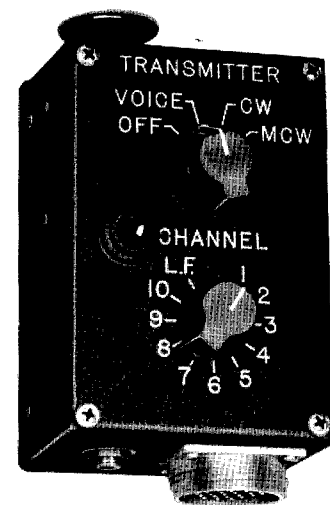

Figure 1-5. Type C-87/ART-13 Pilot's Control Unit
a. The channel upon which transmission is desired and the type of emission may be selected and controlled from either the Type T-47/ART-13 Transmitter panel, the Type C-87/ART-13 Pilot's Control Unit (figure 1-5.), the Type C-740/ART-13 Pilot's Control Unit (figure 1-5A.) or other remote control units.